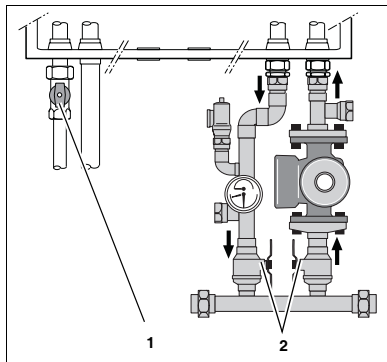

Fig. 3 Opening the gas shut-off valve and the boiler manifold shut-off valves
- Use only your hand to turn the gas control knob (fig. 3 on page 15). Never use tools. If the knob will not turn by hand, don't try to repair it, call a trained service technician. Force or attempted repair may result in a fire or an explosion.
- Open the gas shut-off valve (fig. 3, pos. 1).
- Open the boiler manifold shut-off valves (fig. 3, pos. 2).